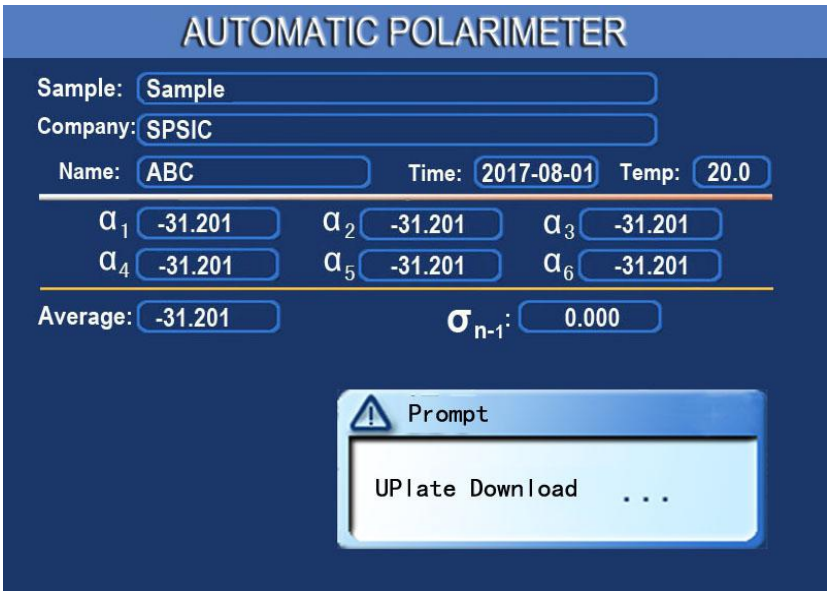

Figure 11
(2) The page has U disk download function, and press "U disk download" key to download the record, as shown in Figure 11